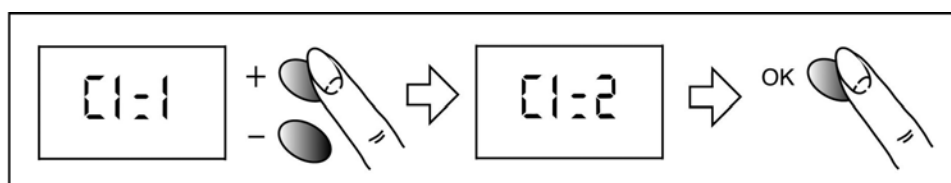

Fig.9
1. To change the configuration, turn the dial to the  position (see Table 4 and Fig.9)